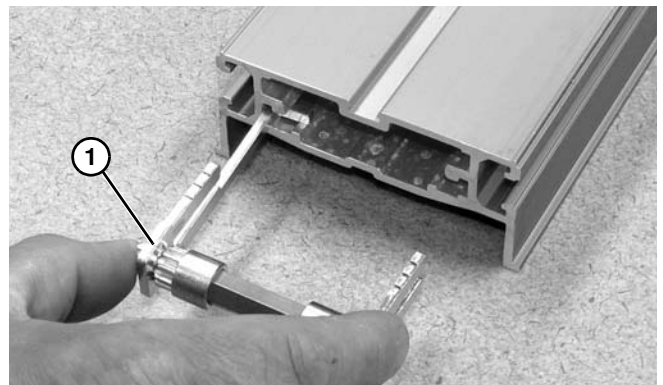

Figure 112
7. Insert pinion assembly (**Figure 112, item 1**) into conveyor frame.